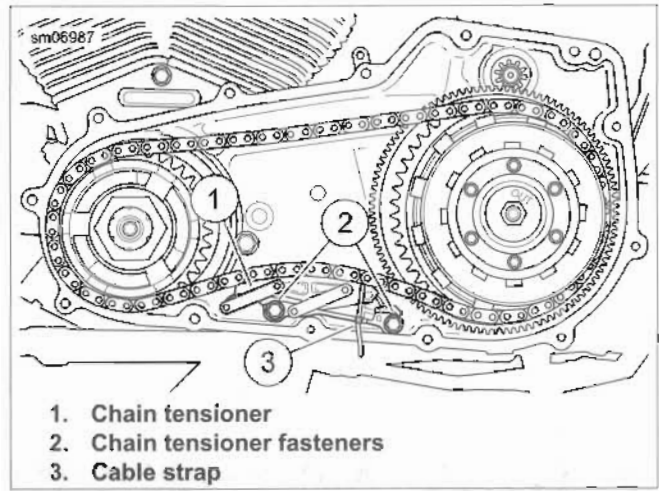

Figure 5-18. Chain Tensioner
3. See Figure 5-18. Remove chain tensioner fasteners (2) and chain tensioner (1).
20. See Figure 5-18. Install primary chain tensioner (1). Install chain tensioner fasteners (2) and tighten to 21-24 ft-lbs (28.5-32.6 Nm). Remove cable strap.